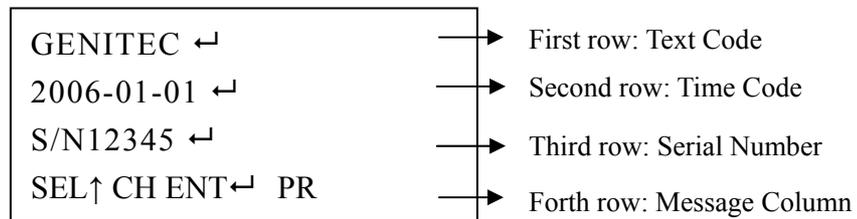

Figure 7
Step1. Press the button  , then it will display the below message on the screen (figure 7).